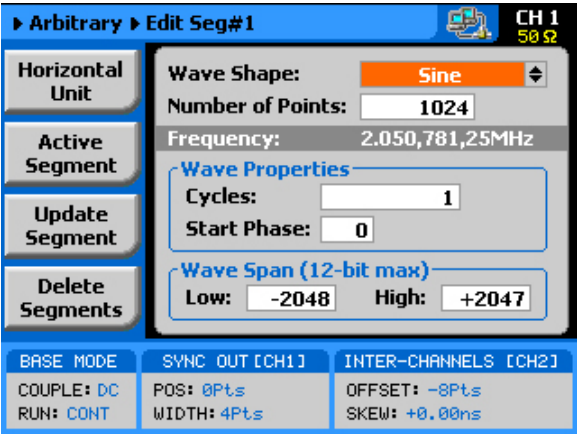

Figure 3-22, The Wave Composer Display
**Wave Composer** – opens a new display that allows creation of simple arbitrary waveforms from the front panel. The Wave Composer display is shown in Figure 3-22.